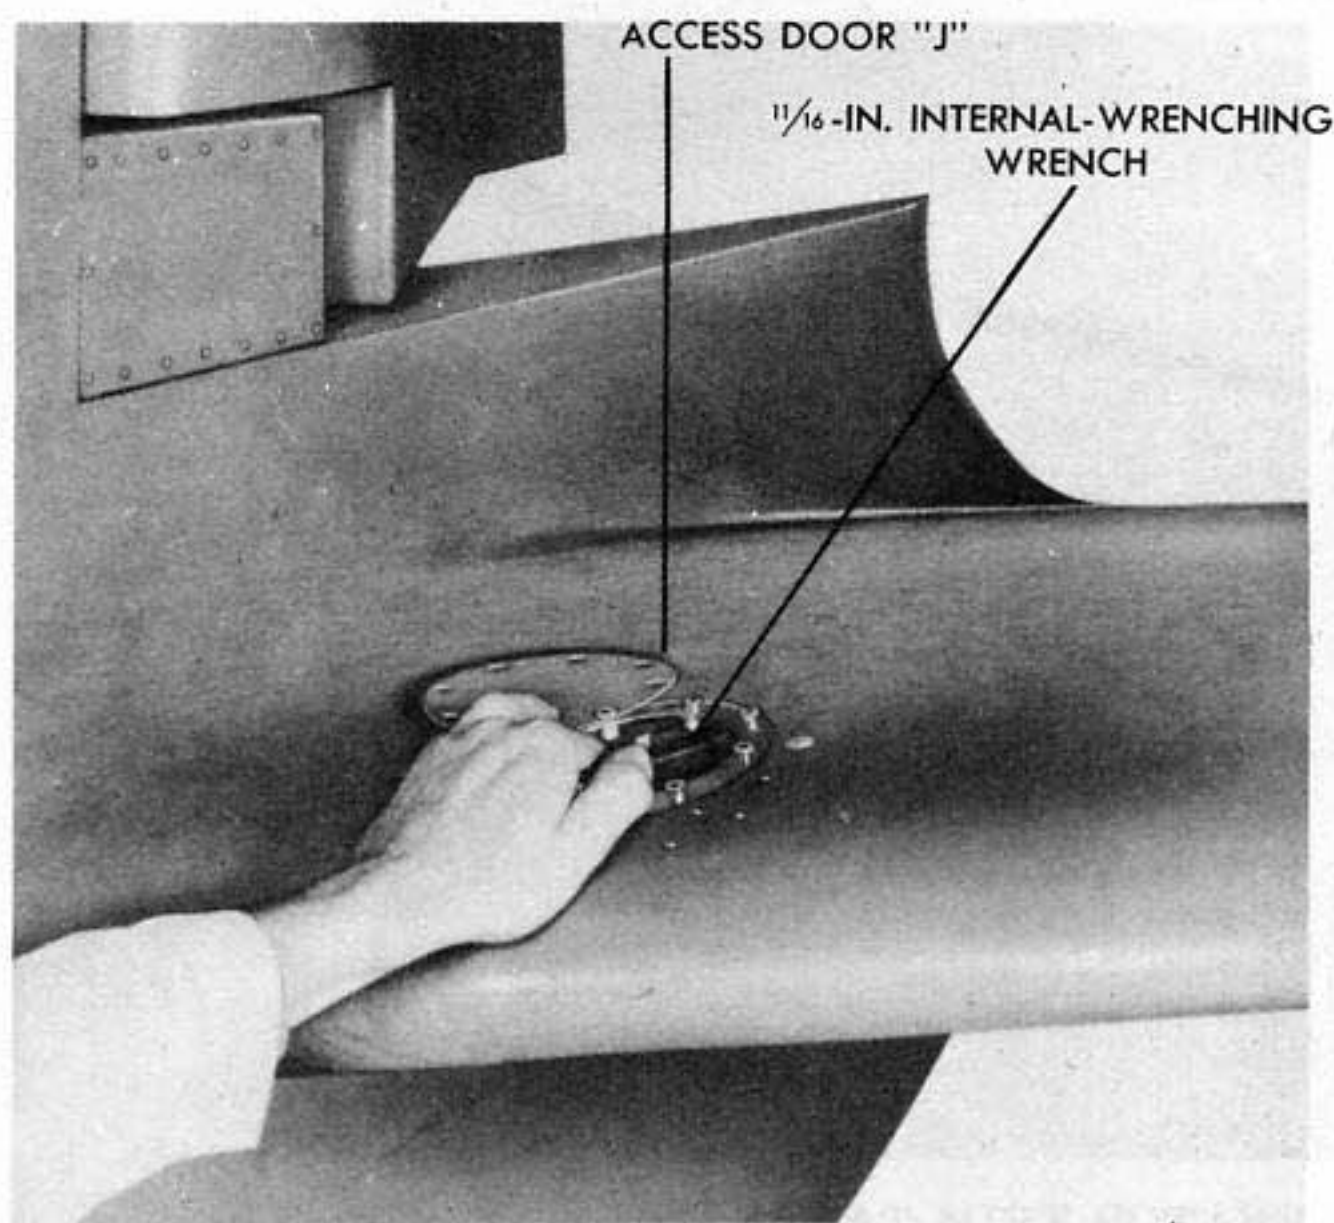

Figure 40 - REMOVING HORIZONTAL STABILIZER
(See figure 40.)
(4) INSTALLATION OF HORIZONTAL STABILIZER. (See figure 40.)